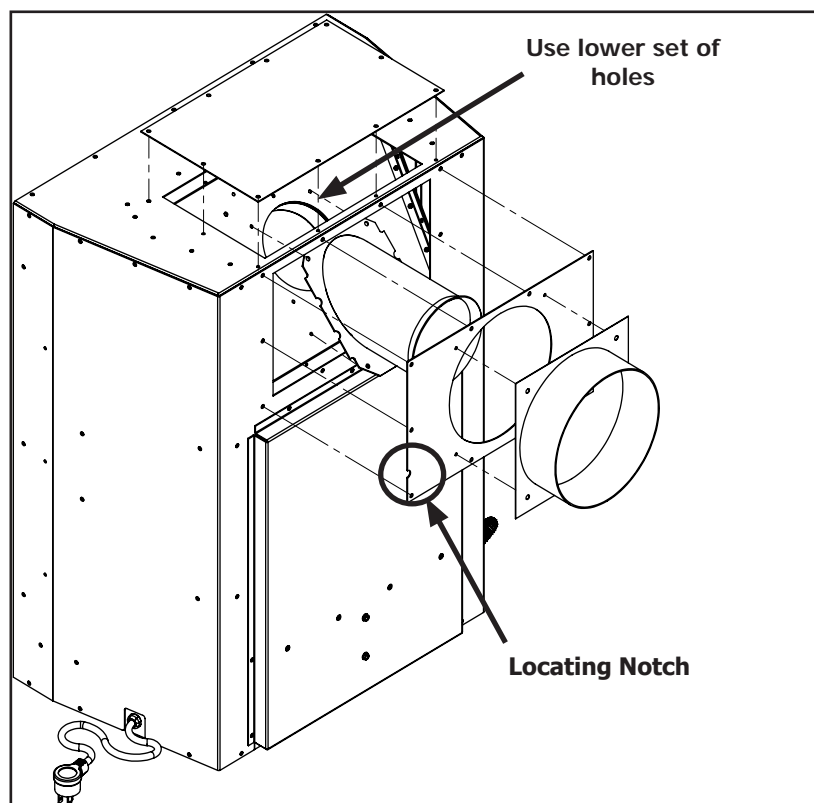

Figure 24. Vent Conversion - Step 2
**Step 2:** Switch the removed parts around as shown in Figure 24 and re-install all 28 screws. To correctly install the base plate keep the locating notch on each side at the bottom. Also note the exhaust spigot uses a lower set of holes when setup as a rear vent.